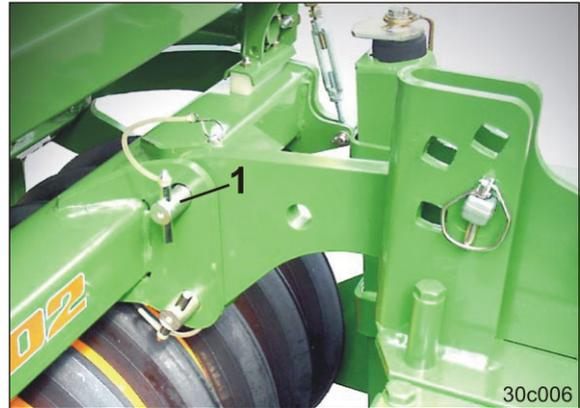

Fig. 115
17. Pull out the top carrying arm pin (Fig. 115/1). Adjust the top link if the carrying arm pin cannot be loosened.